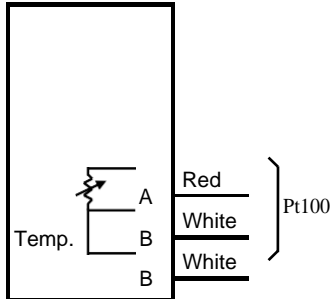

Figure 20. Terminal wiring:
- 3) Connect the lead wires of Neosensor and the wires from the load. (See Figs. 20 and 21.)
- 3) Connect the lead wires of Neosensor to the wires from the load. (See Figs. 20 and 21.)
- 4) Connect the lead wires of Neosensor to the wires from the load. (See Figs. 20 and 21.)